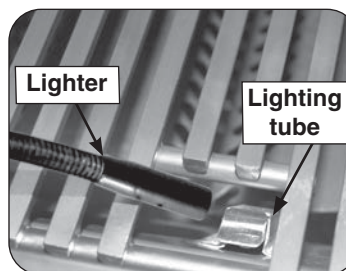
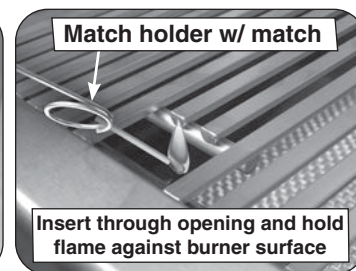

Fig. 27-2 Manual lighting via lighting tube
Fig. 27-3 Manual lighting via match holder
2. Insert either a burning long-barrel butane lighter or a burning long-stem match through the cooking grid opening to the top of the lighting tube (see Fig. 27-2). For backburners or infrared burners, hold the flame against the surface of the backburner/infrared burner. Grills equipped with an infrared burner include a wire extension match holder (attached to drip tray) to assist with manual lighting (see Fig. 27-3).
4. If the burner does not light within five (5) seconds of turning the control knob, **immediately depress the knob and turn the valve to OFF**. **WAIT FIVE (5) MINUTES** before repeating steps 2 through 4 of the MANUAL LIGHTING instructions.